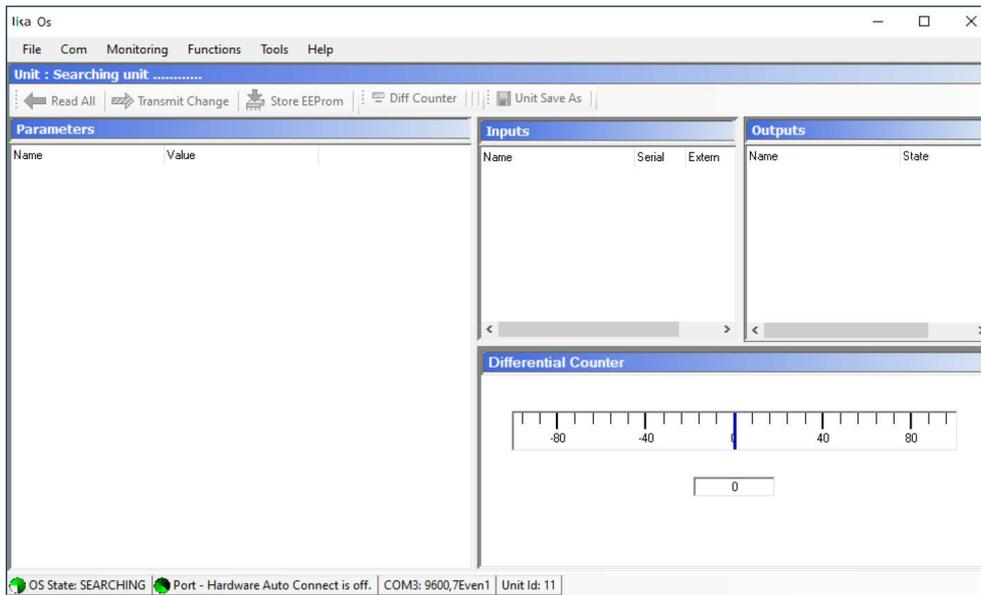
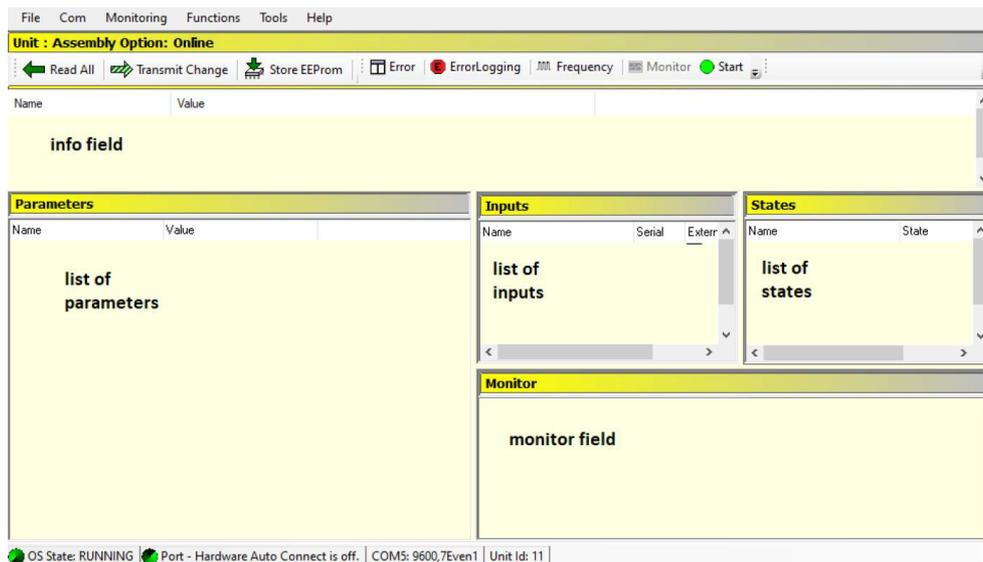

Figure 1 – OS10.0 Standard mode overview
Figure 2 – OS10.0 Safety mode overview
**Auto-switch to safety mode:** when a safety device is connected, the program will automatically detect the device type and switch over to the special working environment of the safety component. An active safety mode (see Figure 2) can be recognized by the yellow coloured windows of the working environment (blue colour in the standard mode, see Figure 1).